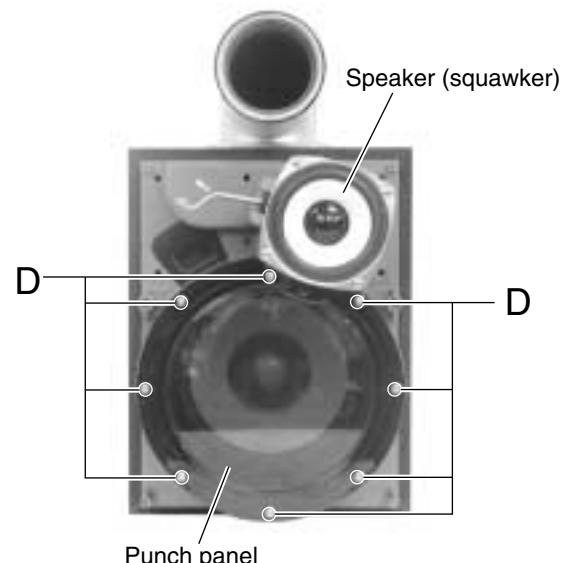

Fig.6
■Removing the speaker (woofer) (See Fig.6 and 7)